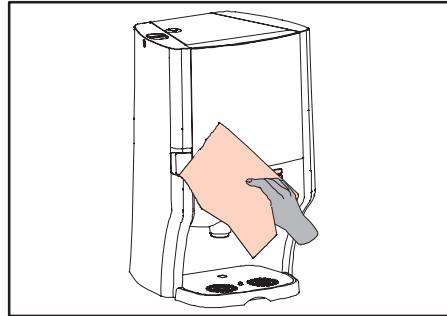

Fig. 36 Cleaning the dispenser
2. Clean the exterior of the dispenser with a clean damp cloth, possibly using a **non abrasive** and **non aggressive** cleaning agent (fig. 36).